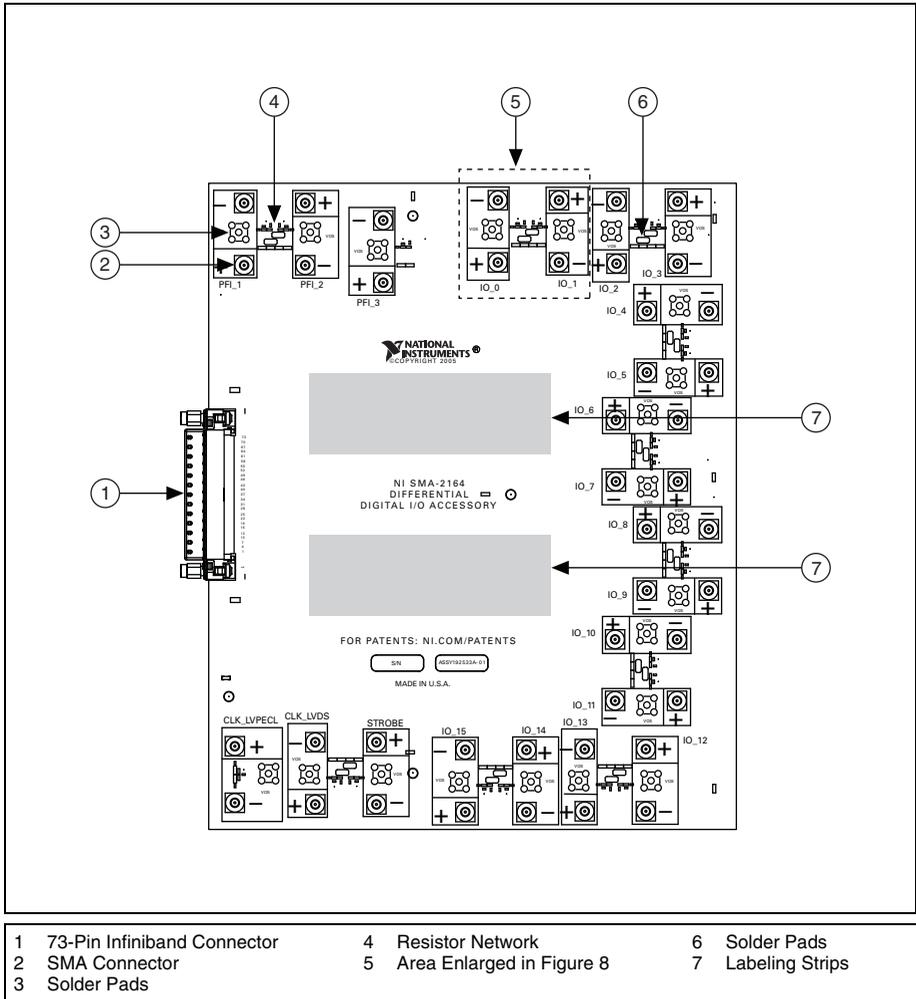
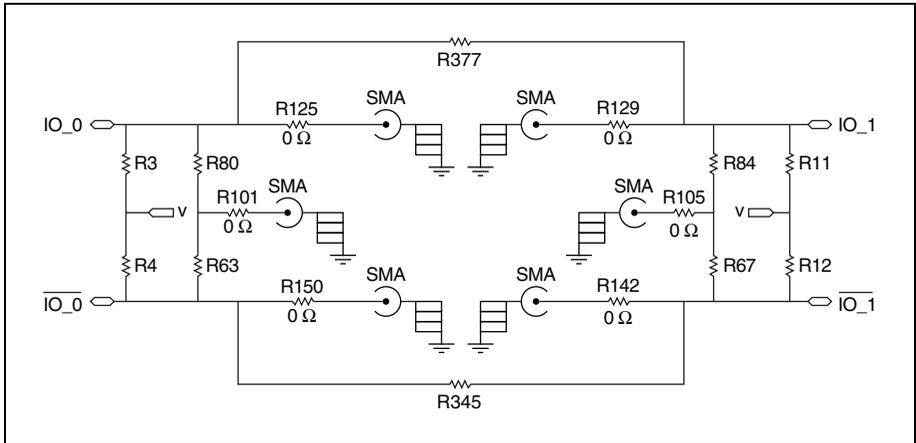
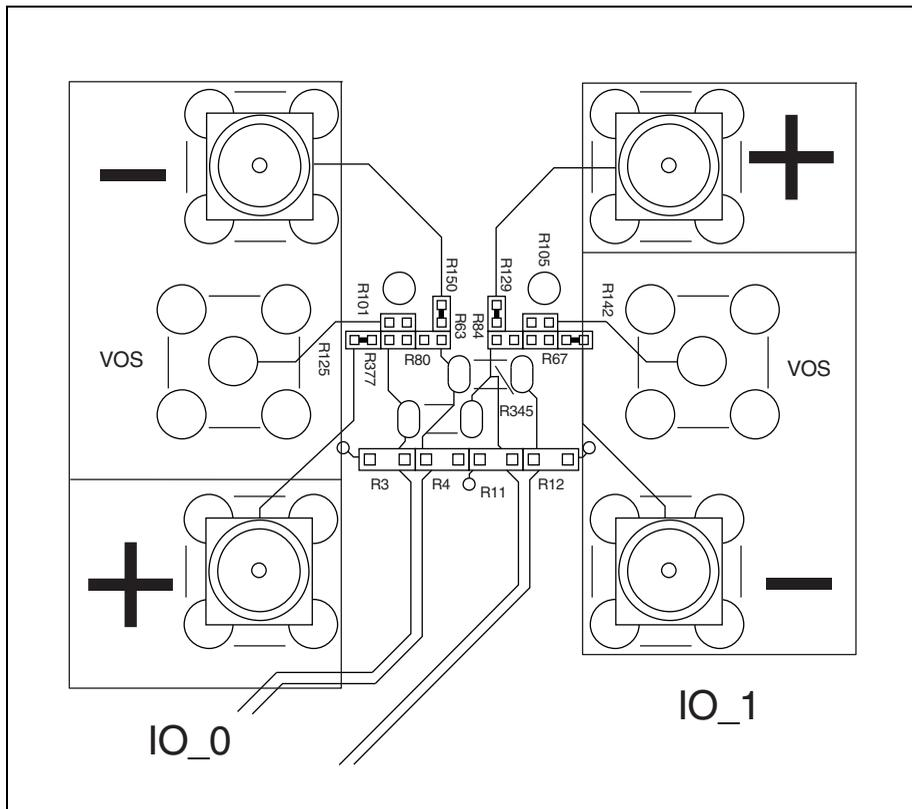

Figure 1. NI SMA-2164 Parts Locator Diagram
Figure 7. Symmetric Circuit
Figure 8. Solder Connection
Refer to Figure 1 to locate connectors and components on the NI SMA-2164.
Each signal pair is routed through a simple circuit to provide solder and probe access to the signals. Signal pairs are routed to a symmetric circuit, as shown in Figure 7.
Figure 8 is an enlarged portion of Figure 1. Figure 8 shows the routing of the signal pairs and the placement of the resistors shown in Figure 7.
Note This figure shows channels IO_0 and IO_1 on the NI SMA-2164. This circuit is copied on the NI SMA-2164/2165 on each pair of channels, though the reference designators vary. Figure 7 is the schematic representation of the PCB shown in Figure 8.
Termination of high-speed digital signals is necessary to prevent signal reflections and force signal channels to a known state when no signal is present. Pads for terminating resistors are connected to all DIO and control channels on the NI SMA-2164/2165. These pads are labeled in Figures 1 and 2 and are shown in more detail in Figure 8.
If your signal transmission line ends on the NI SMA-2164/2165, you can use the provided resistor pads to solder termination resistors. If your signal terminates somewhere other than the NI SMA-2164/2165, NI recommends terminating the transmission line at the final signal destination. Each signal pair is routed through a symmetric circuit, shown in Figure 7.
Unpopulated resistors like R80, R63, R67, and R84 in Figure 8 can be populated with 0402-sized resistors to provide termination. It is recommended that these resistors are each populated with 50 Ω resistors to provide the expected 100 Ω of differential termination.
Each signal pair is routed to a simple debug and prototyping circuitry illustrated in Figure 7.
- Channel-to-channel connectivity—If it is required that two channels be connected to one another (for round-trip delay elimination for example), you can connect neighboring channels by populating a size 1206 0 jumper on resistor locations R345 and R377 in Figure 8. By populating these resistors, IO_0 connects to IO_1, IO_2 connects to IO_3, and so on, and CLKOUT_LVDS connects to STROBE.